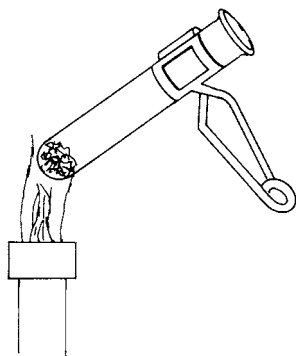

Figure 7.1
- Decomposition of ammonium carbonate.* Place 0.5 g of ammonium carbonate into a clean, dry test tube (100 × 13 mm). Gently heat the test tube in the flame of a Bunsen burner (Figure 7.1). As you heat, hold a piece of wet red litmus paper with forceps at the mouth of the test tube. What happens to the solid? Are any gases produced? What happens to the color of the litmus paper? Ammonia gas acts as a base and turns moist red litmus paper blue. Record your observations and complete a balanced equation if you see that a reaction has occurred (5).